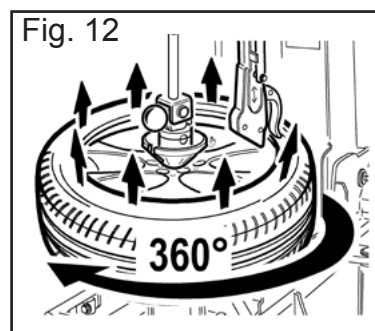

Fig. 12
- Press the rotation pedal to turn the tyre clockwise by 360° until the upper bead is completely demounted (fig. 12)
- Keeping the tyre bead pressed down into the wheel rim channel with your hands, press down on the pedal (Z) to rotate the turntable clockwise. Continue until you have covered the entire circumference of the wheel rim (Fig. 12).